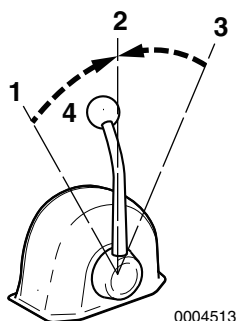

Figure 2
Use the throttle handle (**Figure 2, (4)**) to control acceleration and deceleration. Move the handle slowly.
2. When moving the handle between **FORWARD (Figure 2, (1 or 3))** and **REVERSE (Figure 2, (3 or 1))**, bring the handle to **NEUTRAL (Figure 2, (2))** and pause before slowly shifting to the desired position. Never shift abruptly from **FORWARD** to **REVERSE** or vice versa.